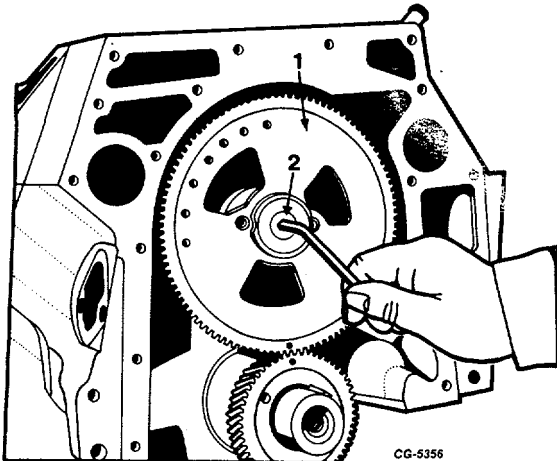

Fig. 63
a. Remove camshaft allen screw, Fig. 63.